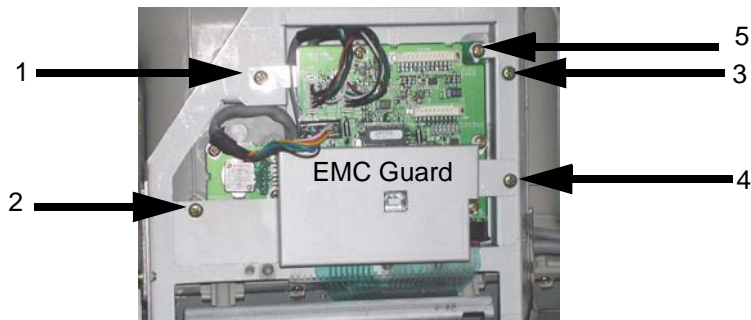

Figure 8-33 Removing HUB EMC guard
- 1.) Unscrew five (5) screws and remove the HUB Assy EMC guard. Refer to Figure 8-33.